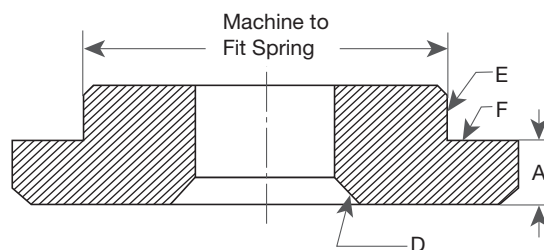

Figure 43: Lower Spring Washer F, G, and H Valves
1. Secure the eductor tube (40) in the base (1) by expanding or swaging into the hole provided. The upper end of the eductor tube should project above the guide surface of the base approximately .125" (3.18 mm) and the lower end should point directly and squarely toward the valve outlet. When the valve is assembled, the hole at the outer edge of the guide flange must fit loosely around the projection of the eductor tube.
2. For F, G and H orifice valves only, machine the new lower spring washer (17) (see Figure 43 and Table 21).
Note: When indicated at surfaces D and E (see Figure 43), run out at surface F is not to exceed .005" (.127 mm) full indicator reading.
Note: When indicated at surfaces D and E (see Figure 43), run out at surface F is not to exceed .005" (.13 mm) full indicator reading.
Drift Pins - Two drift pins are required for the removal of the disc (6) from the disc holder (8) (see Figure 43 and Table 25a).